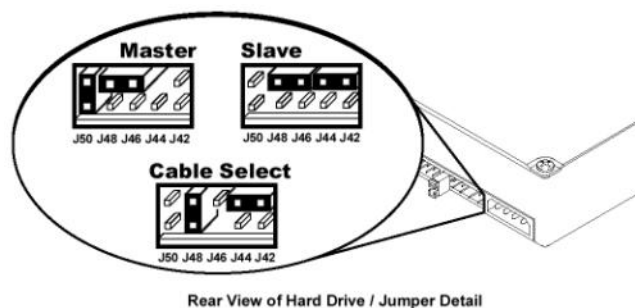

Figure 8-67 Hard Disk Removal 2
- 5) Remove each of the four screws (two on each side), as shown in Figure 8-67 on page 8-82.
- 3) Fasten each of the four screws (two on each side), as shown in Figure 8-67 on page 8-82.